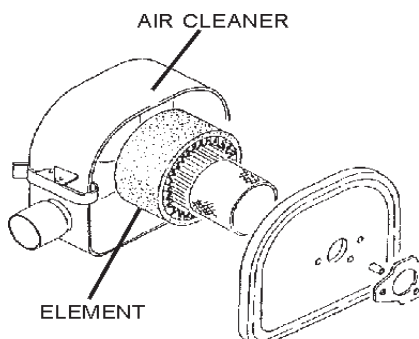

Figure 12. Air Cleaner
- The air cleaner (Figure 12) on the engine side will hardly be contaminated, if it is, however after cleaning the element with kerosene, dip it in mixed oil consisting of 3 parts of gasoline and 1 part of engine oil. Then tightly squeeze outer primary element (sponge) and shake off well the inner secondary element before installing them.